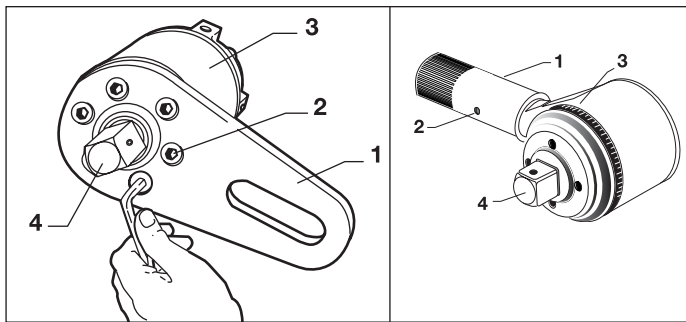

Figure 1, Changing the Reaction Plate
WARNING: Do not hold torque multiplier reaction bar or reaction plate (Fig. 1, Item 1) while applying torque. Normal multiplier deflection could create pinch a point.
WARNING: Prior to EACH use, check reaction plate/bar holding screws to insure they are tight (Fig. 1, Item 2).
WARNING: Prior to EACH use, inspect output square drive (Fig. 1, Item 4) for visible sign of fatigue or fracture. Replace if necessary.
A controlled-shear output square drive (Fig. 1 Item 4) protects internal components in the event maximum output capacity is exceeded. This overload-protection feature causes the drive to fracture when output exceeds from 103% to 110% of rated output capacity. One replacement drive is included with the torque multiplier (E391, E392, E393, E492, E493, E494, E495). (Order additional replacements from your Enerpac distributor.)
3. Mount the proper size female square drive socket onto the torque multiplier's output square drive (Fig. 1, Item 4). Position socket and torque multiplier on the fastener to be tightened.